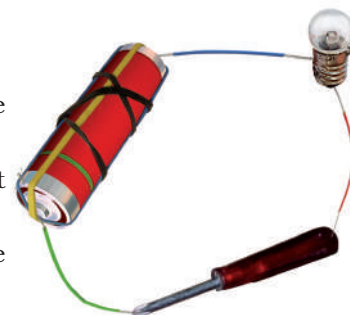

Fig. 12.13
3. Explain why the bulb would not glow in the arrangement shown in Fig. 12.13.